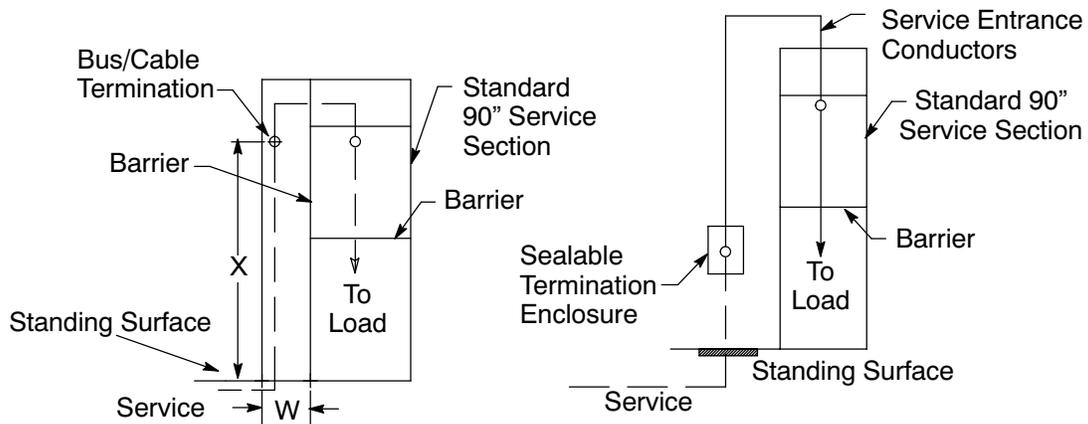
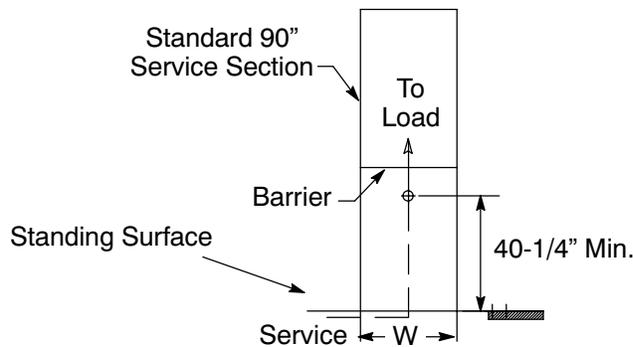

Figure 7-5
Figure 7-7
- Figure 7-5, "Switchboard Pull Section," Figure 7-6, "Separate Pull Box," and Figure 7-7, "Bottom-Fed Service Section," all on Page 7-8, illustrate typical arrangements of the switchboard service sections that are used in conjunction with a pull section or pull box for underground service-conductor termination.